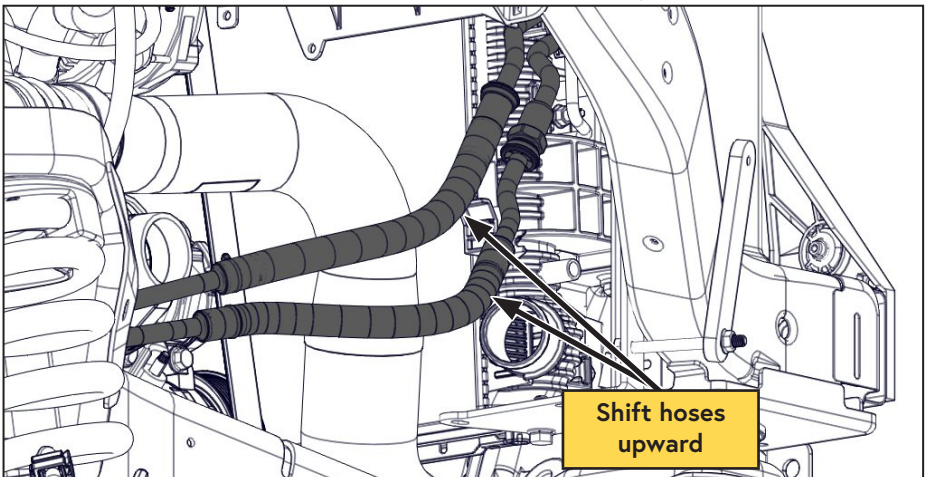

Figure 41 — Deflect hoses
- ☐ While stabilizing the transmission cooler hoses at the radiator, gently deflect the hoses upward to provide room for the oil cooler (figure 41).